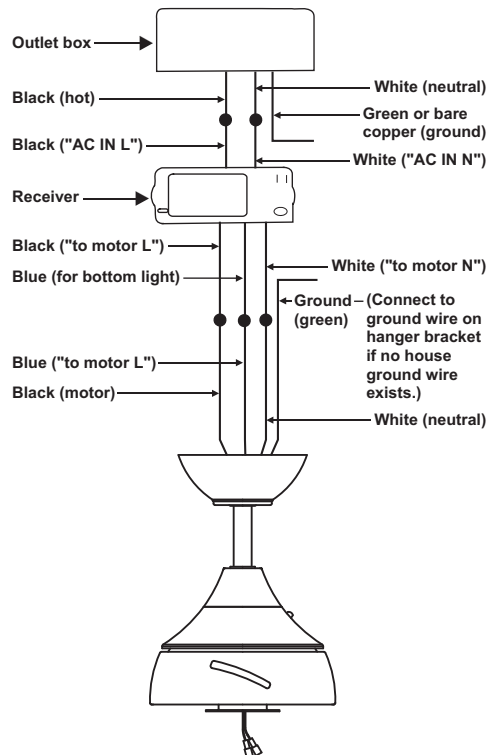

Figure 11
Step 2. (Fig. 11) Motor to Receiver Electrical Connections: Connect the Black wire from the fan to Black wire marked "TO MOTOR L". Connect the White wire from the fan to the White wire marked "TO MOTOR N" from the receiver. Connect the Blue wire from the fan to the Blue wire marked "For bottom Light" from the receiver. Secure wire connections with the plastic wire nuts provided.
Step 3. (Fig. 11) Receiver to House Supply Wires Electrical Connections: Connect the black (hot) wire from the ceiling to the black wire marked "AC in L" from the receiver. Connect the white (neutral) wire from the ceiling to the white wire marked "AC in N" from the Receiver. Secure the wire connections with the plastic wire nuts provided.
Step 4. (Figure 11) If your outlet box has a ground wire (green or bare copper) connect it to the fan ground wires; otherwise connect the hanging bracket ground wire to the mounting bracket. Secure the wire connection with a plastic nut provided. After connecting the wires, spread them apart so that the green and white wires are on one side of the outlet box and black and blue wires are on the other side. Carefully tuck the wire connections up into the outlet box.